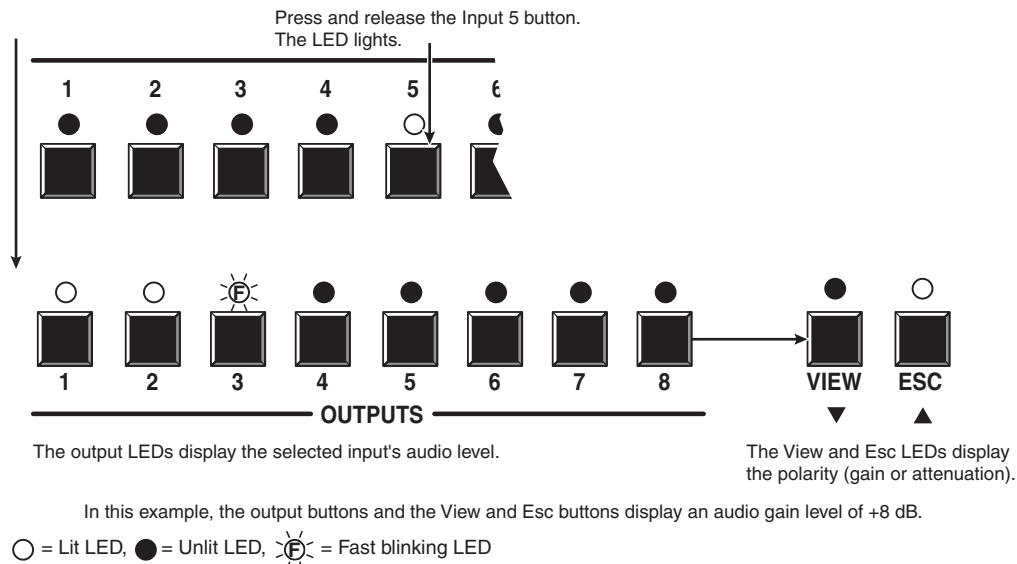
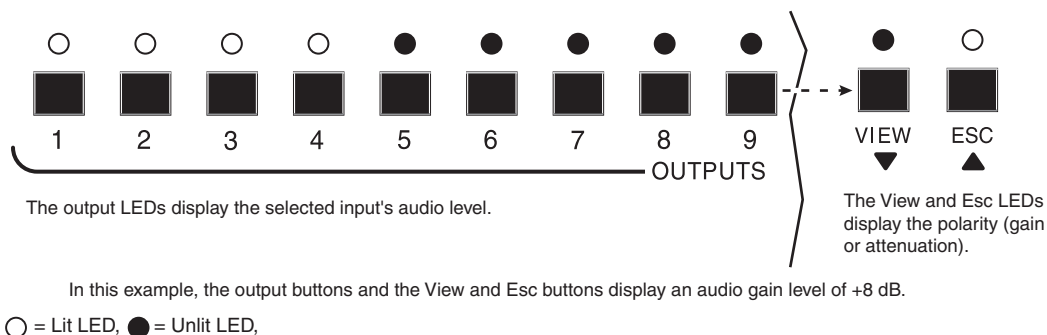
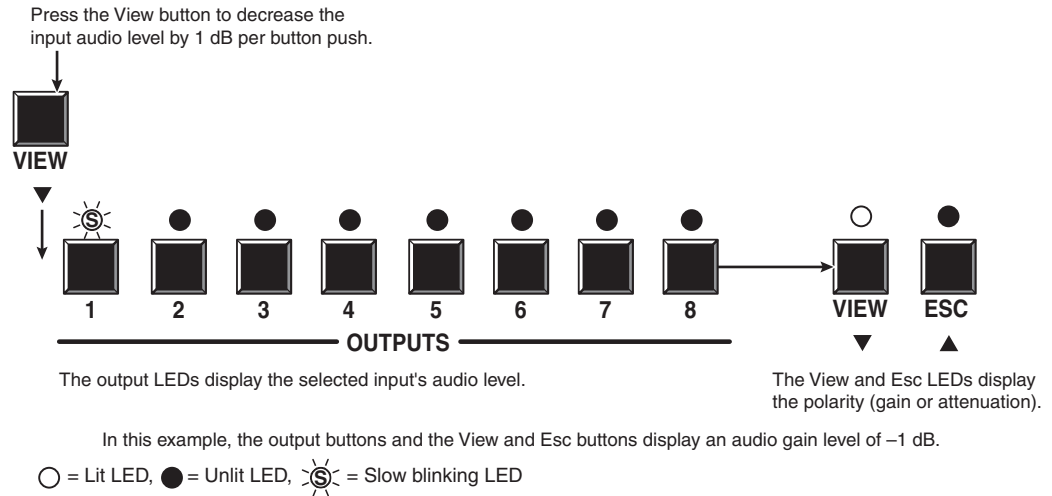
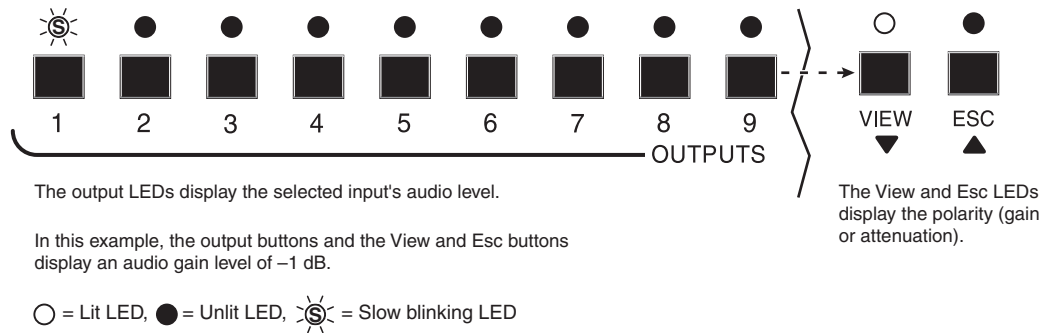

Figure 3-45 — Select an input and read the audio level
Figure 3-46 — Level display on a 16-output-LED switcher
Figure 3-47 — Adjust the input audio level
Figure 3-48 — Level display on a 16-output-LED switcher
For this reason, figure 3-46 and figure 3-48 show the indications displayed on a switcher with 16 output buttons without duplicating all of the actions shown in figure 3-45 and figure 3-47, which show the MVX 128 with 8 output buttons.
- Press and release the Input 5 button (figure 3-45).
NOTE Figure 3-45 shows the current level (+8 dB) displayed on the MVX 128 A, an 8-output-LED switcher.
Figure 3-46 shows the same level (+8 dB) as in figure 3-45, but displayed on a 16-output-LED switcher, such as an MVX 1212 A.
- Press and release the View (▼) button once (figure 3-47) to decrease the input audio level by 1 dB.
Press and release the View (▼) button several more times (figure 3-47) to decrease the input audio level by 1 dB per button push. Note the output button indication changes that occur each time the View (▼) button is pressed.
Figure 3-47 shows the result of pressing the View (▼) button a total of nine times. Note that the level is now displayed in red to indicate a negative level.
NOTE Figure 3-47 shows the adjusted level (-1 dB) displayed on the MVX 128 A, an 8-output-LED switcher.
Figure 3-48 shows the same level (-1 dB) as in figure 3-47, but displayed on a 16-output-LED switcher, such as an MVX 1616 A.